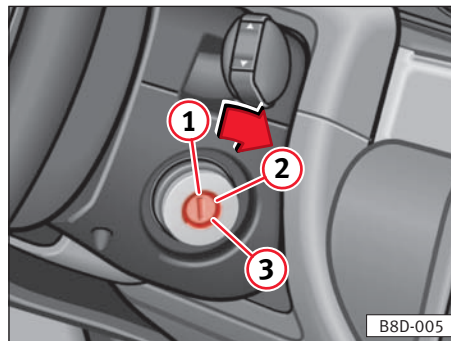

Fig. 146
- Turn the key in the ignition lock to position ② ⇒ fig. 146 ⇒ "Ignition lock" chapter – the glow plug warning lamp comes on. It goes out when the ignition temperature is reached.